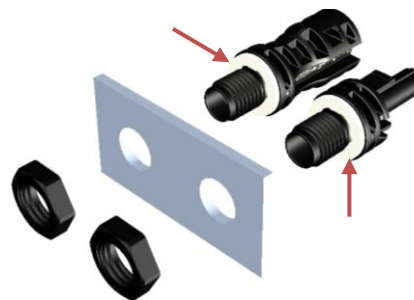

Figure 16
- ✧ 在公/母面板连接器插入钻孔前，请确保已安装防水垫圈，且防水垫圈安装在墙板的外侧（如图 16）。
Please ensure seal gasket is located and positioned outside of the mounting surface before the male or female panel connector inserts the drilled hole (Fig.16).